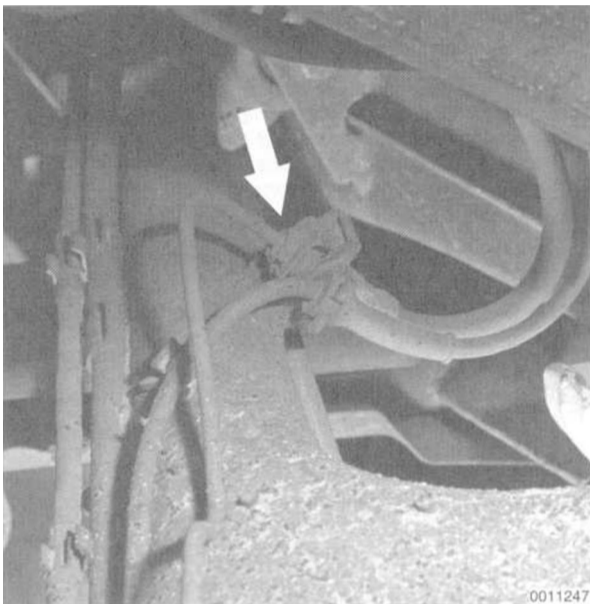

Fig. 13. Rear brake line union (**arrow**) on top of the trailing arm.
- Disconnect the rear brake line at the union shown in Fig. 13. Drain the brake fluid or plug the line.